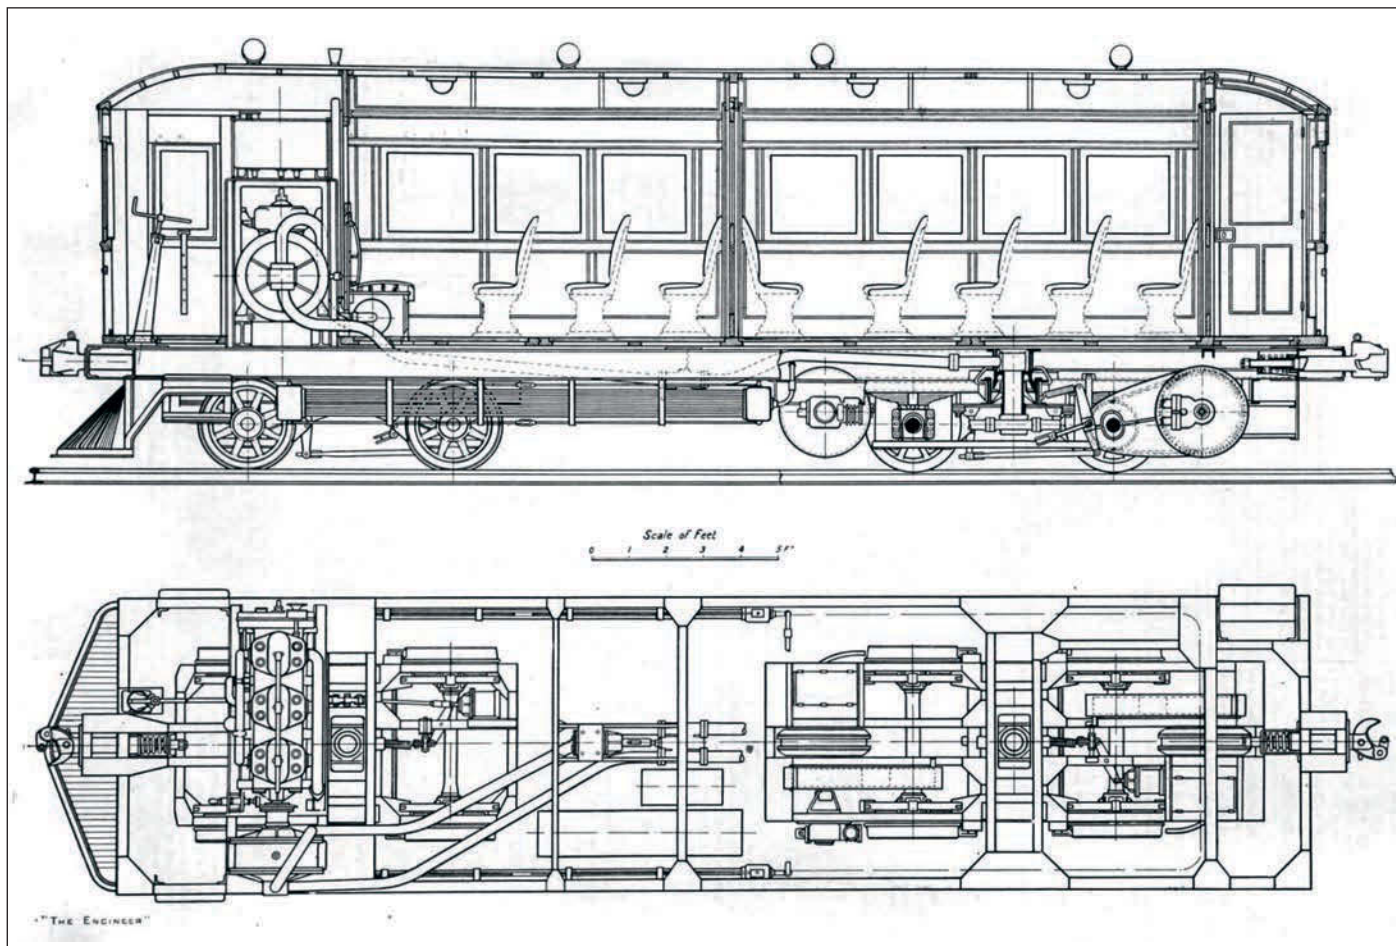

Fig 11: Petrol - hydraulic rail coach built by Messrs McEwan Pratt and Company, 1913, from ref. 14.
As described in later instalments, several of the attempts to adapt IC engines to rail involved the use of hydrostatic transmissions of various designs. One of the earliest such ventures was made in 1913 by Messrs McEwan Pratt and Company which had been founded in Wickford, Essex. However, by 1913, it had become a subsidiary of the firm of Baguley Cars Ltd, of Burton on Trent. Baguley later built a number of narrow-gauge locomotives. The rail vehicle to be described here was a standard gauge motor coach for service in Canada, **photo 5**. It weighed 20 tons, its length was 33.ft and it was powered by a six-cylinder engine that was estimated to develop 103.bhp running on petrol or 85 bhp on paraffin. The engine powered a Hele-Shaw pump which can be seen in **figs. 11** and **12** and in **photo 6**. The pump delivered oil at up
to 2,000 psi to two motors mounted on the rear bogie. These drove the axles via 'heavy chain gearing'. The two substantial pipes that carried the oil to the rear bogie can be seen in fig. 11 and photo 6. It was reported that the car could be started, stopped and reversed with ease by the manipulation of a hand wheel which adjusted the throw of the pump and the direction of flow. The hydraulic drive provided great starting effort and, with about thirty people on board, the car coped easily with gradients of 1 in 50. The coach was delivered to the newly established Lacombe and Blindman Valley Railway in Alberta. The line was taken over by the Canadian Pacific Railway in 1928 and the coach was scrapped, **ref. 15**.